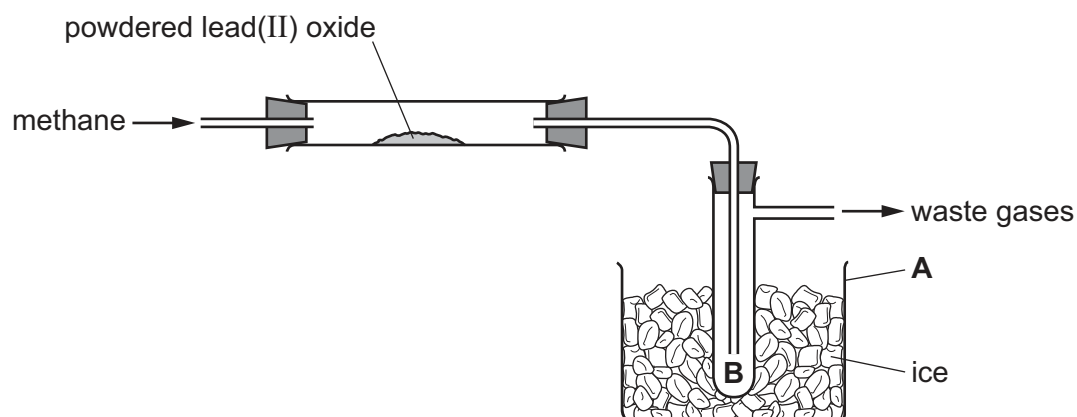

Fig. 1.1
- 1 Hot powdered lead(II) oxide is reduced by methane, a flammable gas. The products are lead, steam and carbon dioxide gas.
Fig. 1.1 shows the apparatus used to reduce lead(II) oxide using excess methane.
- (b) Draw an arrow on Fig. 1.1 to show where the apparatus should be heated.
- (d) Explain what happens at the point labelled **B**, on Fig. 1.1.